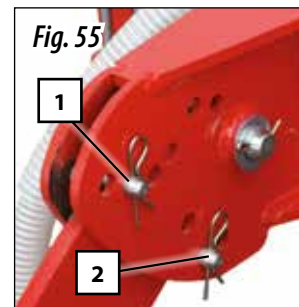

Fig. 55
- a. The upper bolt (1 fig. 55) controls the sowing depth at the last line of coulters and, consequently, the roller will exert more or less pressure on the ground.
- b. The lower bolt (2, fig. 55) controls the roller penetration into the ground; it must be fixed for transportation purposes.
IN DIRECT SOWING, IT IS ADVISABLE TO FIX THE ROLL WITH THE BOLT (1, FIG. 55) SINCE IT ALLOWS CONTROLLING THE SOWING DEPTH OF THE LAST LINE OF COULTERS IN THE EQUIPMENT AND, THEREFORE, LEVEL THEM ACCORDING TO THE FIRST LINES. A PRE-SOWING TEST IS ADVISABLE.